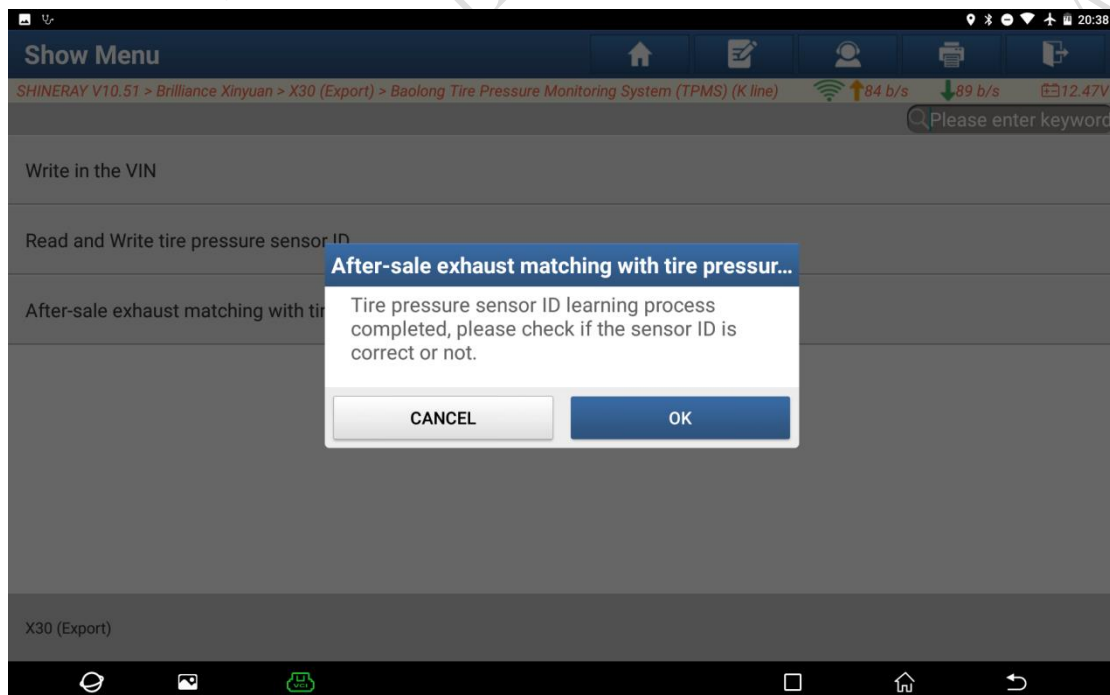

Figure 15
15. Repeat steps 9 to 14 to complete the learning of the RR and FR wheel sensor IDs, and click [OK] to check whether the learning is correct, as shown in Figure 15.